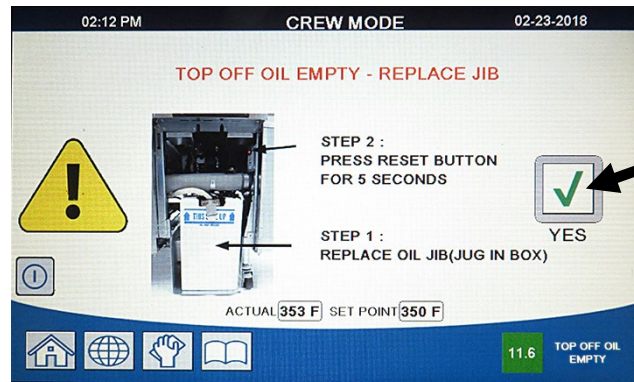
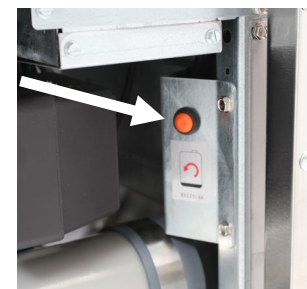

Figure 3
Figure 8
The fryer can be configured for either manual top off or for both manual and automatic depending on the hardware. When a vat is low, press the manual top off (oil drop) button at the bottom of the screen (see Figure 3) to top off the vat. The controller displays PUSH BUTTON TOP OFF? Press the YES (✓) button. START FILLING? is displayed. Press and hold the button to start filling. Release the button when the oil is at the top oil level line. Press the NO (X) button to exit. If the unit has optional auto top off, the frypot oil levels are continually checked and topped off as necessary from a reservoir in the cabinet.
When the oil reservoir level is low and displays TOP OFF OIL EMPTY – REPLACE JIB, (see Figure 3). Once the reservoir is refilled and/or replaced, press and hold the orange reset button next to the oil reservoir (see Figure 8 on the following page). Press the check button to temporarily clear the screen. The message in the lower corner continues to be displayed until the orange reset button is pressed. If using solid shortening, see Appendix B for instructions.
6. Press the JIB reset switch to clear the Top Off Oil Empty display on the FQ4000 controller (see Figure 8).